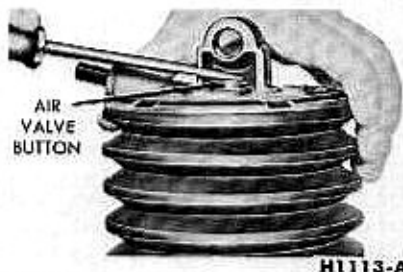

FIG. 12—Air Valve and Vacuum Valve Assembly Check
7. Test air valve operation (Fig. 12). As the air valve is pushed inward, two definite stages should be felt. At the beginning of air valve travel, only the air valve control spring is being compressed. When the air valve contacts the vacuum valve and moves it off its seat, the vacuum valve spring is also being compressed. When the valve is released it should snap back readily.